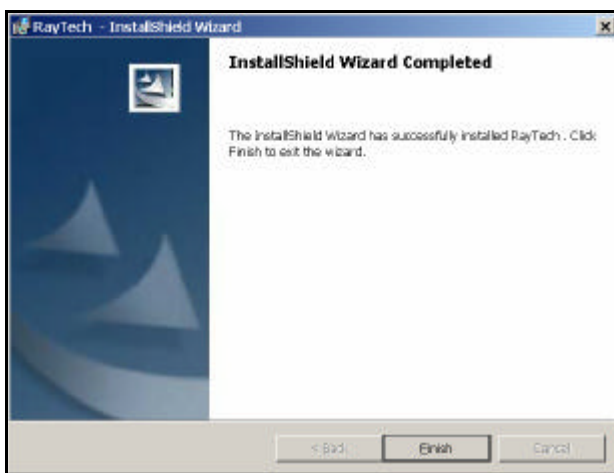

Figure 2-7. InstallShield Wizard Completed Screen
7. Click **Install** on the ISW Ready to Install screen to begin the installation. The progress of the installation is displayed on the screen, and after a few moments, the ISW Completed screen (Figure 2-7) appears.